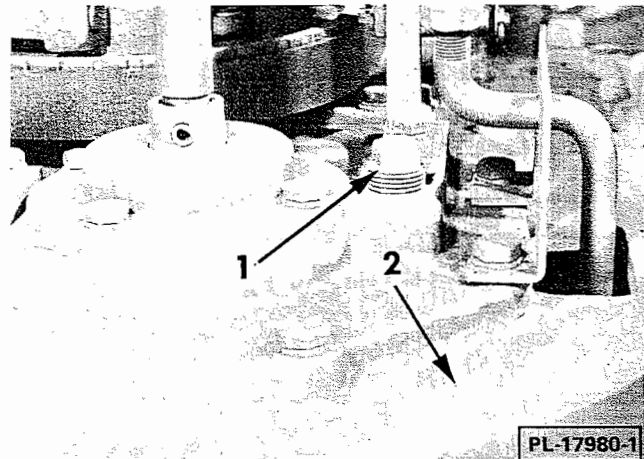
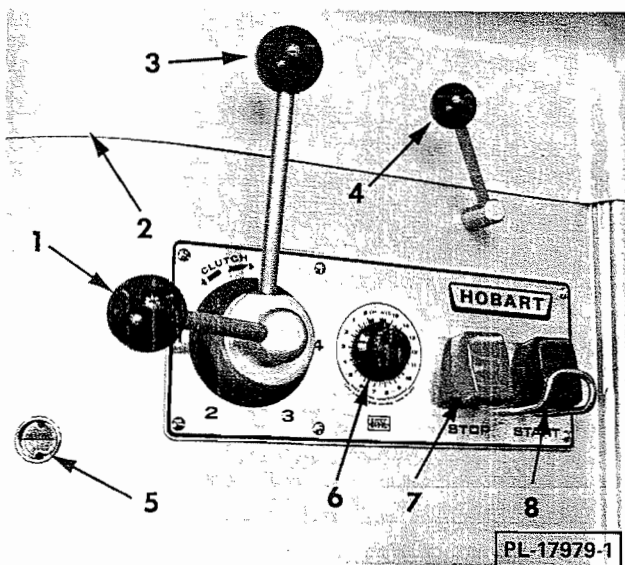
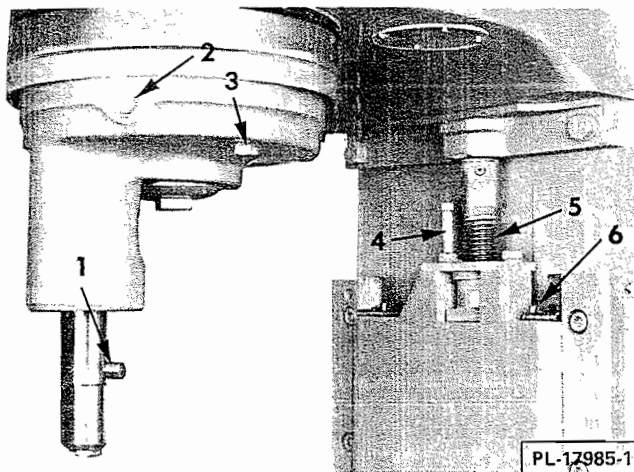
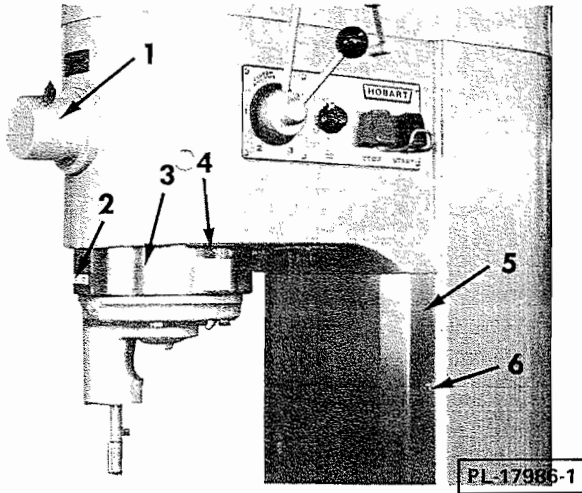

Fig. 2
Fig. 1
Fig. 3
Fig. 5
Once located, the machine must be leveled. Remove the top cover screws and the top cover (2, Fig. 1). Place a level on the machined surface (2, Fig. 2) of the transmission case. Slide shims under the legs of the base as necessary to level the mixer.
To fill transmission, remove the top cover (2, Fig. 1) and transmission fill plug (1, Fig. 2). Pour the contents of bottle labeled **Transmission Oil**, shipped with machine, into the case. The oil level should be between the center and top of the oil level gauge (5, Fig. 1). If the oil falls below this when the motor is not running, more oil is required. When adding oil, add small amounts at a time and check during operation.
Remove the planetary fill plug (2, Fig. 3). Check to assure the drain plug (3, Fig. 3) is tight. Slip one end of the tubing (supplied) over the nozzle end of the container labeled **Planetary Oil**. Place the other end of the plastic tube in the planetary and pour entire contents into the machine. Replace the fill plug.
Three-phase machines must be connected so the planetary turns in the direction of the arrow (2, Fig. 5). To check the direction of rotation, turn the power disconnect switch ON. Place the speed selector (1, Fig. 1) in #1. Place timer (6, Fig. 1) on HOLD. Energize machine momentarily by pushing START then STOP and verify the direction of rotation.
Operational controls include a timer (6, Fig. 1), a START switch (8, Fig. 1), a STOP switch (7, Fig. 1), a clutch handle (3, Fig. 1), a speed selector handle (1, Fig. 1), and a power bowl lift handle (4, Fig. 1).
The power bowl lift is used to raise or lower the bowl with the motor running. To use the power bowl lift, move the clutch handle (3, Fig. 1) to the STOP position. Place the timer knob on HOLD and press the START button. Move the power bowl lift handle (4, Fig. 1) from the center neutral position clockwise to raise the bowl or counterclockwise to lower it. An overload slip clutch will ratchet at the top and bottom stop positions to signal end of travel and to protect the operating mechanism.
With the bowl in place and the lift at its bottom stop, push the agitator shank up on the shaft and turn clockwise until the drive pin (1, Fig. 3) of the shaft latches in the bayonet slot of the agitator shank. Agitators which may be used with this mixer are shown on the last page of this manual.
For non-timed operation, place the clutch handle in the STOP position and set the speed selector handle (1, Fig. 1) at the desired speed. Set the timer (6, Fig. 1) on HOLD and depress the START switch (8, Fig. 1). Move the clutch handle from STOP to RUN to start mixing. At completion of mixing, move the clutch handle to STOP and depress the STOP switch (7, Fig. 1).
For timed operation, place the clutch handle in the STOP position and set the speed selector handle (1, Fig. 1) at the desired speed. Set the timer (6, Fig. 1) at the desired time (if less than 3 minutes turn past 3 and back to the desired time), and depress the START switch (8, Fig. 1). Move the clutch handle from STOP to RUN to start mixing.
If it is necessary to stop the mixer before timer has expired, move the clutch handle to STOP and depress the STOP switch (7, Fig. 1). The mixer may be restarted by depressing START switch if timer has not expired. If timer has expired, it must be reset before depressing START switch. The clutch handle should then be moved to RUN to start mixing.
**TO CHANGE SPEEDS, DISENGAGE THE CLUTCH** by moving the clutch handle (3, Fig. 1) to STOP position. The brake is automatically actuated. When the agitator shaft has stopped, move the speed selector handle to the desired speed. Make certain the speed selector handle lines up with number on the shift selector plate. **NEVER POSITION THE HANDLE BETWEEN NUMBERS. PLACE THE CLUTCH HANDLE IN RUN POSITION TO CONTINUE OPERATION.**
Install the attachment into the attachment hub (1, Fig. 5) of the mixer. Make certain the square shank
The bowl support apron (5, Fig. 5) may be easily removed by loosening the thumb screws (6, Fig. 5). The inner apron may be removed by removing its screws.
The drip cup (3, Fig. 5) should be removed periodically and wiped clean. It is removed by loosening the two thumb screws (4, Fig. 5) and pulling down.
The oil in the planetary should be checked periodically. Remove the drip cup (3, Fig. 5) by loosening the two thumb screws and pulling down. Remove the fill plug (2, Fig. 3). Oil should be even with the bottom of the fill plug hole. If oil does not run out, slowly add Gearep #85 until it begins to overflow. Replace the fill plug and drip cup.
An oil drain is located at the bottom of the planetary. Should draining be necessary, remove the drip cup and place a suitable catch pan under the planetary. Remove the drain plug (3, Fig. 3). When oil is completely drained, replace the drain plug. Remove the fill plug and replenish with 6 ounces of Gearep #85.
For correct lubrication, the oil level should be between the center and top of the oil gauge (5, Fig. 1) when the machine is not running. If the oil falls below this, remove the top cover and the fill plug (1, Fig. 2). Pour Gearep #140 into the transmission until oil returns to the gauge line. Replace the fill plug and top cover. Use caution not to overfill the transmission as leakage may result.
The slideways and the lift screw should be lubricated about twice a year depending upon amount of use. To reach these areas, loosen the thumb screws (6, Fig. 5) and remove the bowl support apron (5, Fig. 5). Remove the inner apron by removing its screws. Oilers (6, Fig. 3) are provided for lubricating bowl slideways. Lower the bowl support to expose oilers and use Havoline #10 oil. The lift screw (5, Fig. 3) is lubricated by applying a thin coat of Lubriplate 630AA (supplied). Replace the aprons and tighten the screws.
Remove the bowl support apron (5, Fig. 5) and inner apron. Install the bowl and lock in place. Install the "B" beater. With the bowl in its raised position, **DISCONNECT ELECTRICAL POWER SUPPLY.**
Loosen the lock nut, and turn the stop screw (4, Fig. 3) clockwise to decrease the clearance or counterclockwise to increase the clearance. Tighten the lock nut while holding the stop screw.